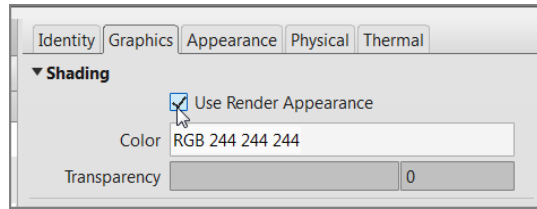

FIGURE 9.69: Mapping out the rendering and the shading appearance
3. In the Material Editor, click Use Render Appearance under Shading, as shown in Figure 9.69. Click done, and then click OK.